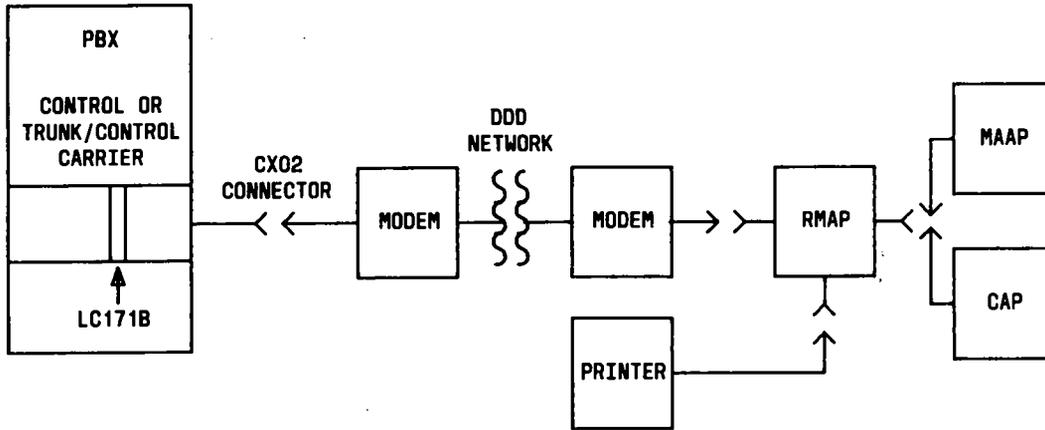

Fig. 81.1—Remote Maintenance and Administration Panel Connections
5.124.1 The Remote Maintenance and Administration Panel (RMAP) permits the administration of one or more PBXs from a central location. The RMAP provides an interface between either a Maintenance and Administration Panel (MAAP) or a Customer Administration Panel (CAP) and the remote PBX(s) (Fig. 81.1). A standard 300 baud modem is used to establish the connection between the RMAP and the PBX via the telephone network. The RMAP connection is made to the Remote Maintenance and Test System (RMATS) port on the PBX.